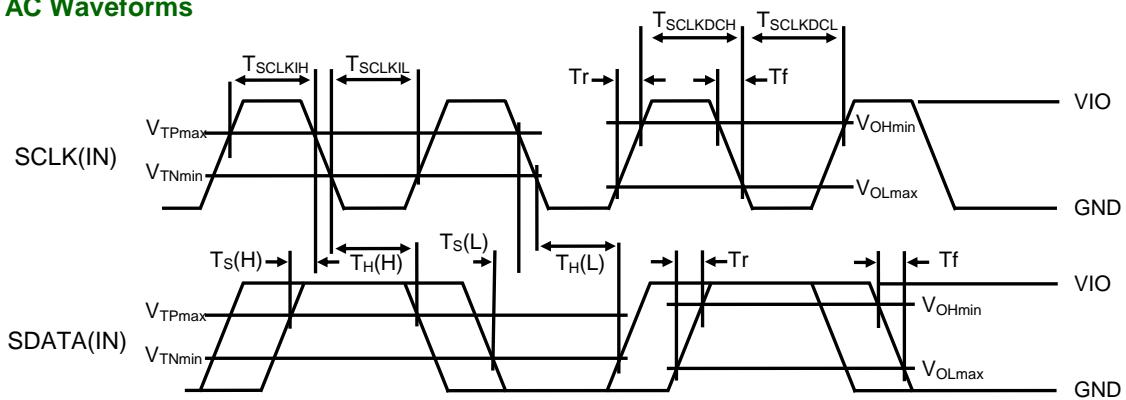

Figure 6.  $T_{SCLKDH}$ ,  $T_{SCLKDCL}$ ,  $T_{SCLKIH}$ ,  $T_{SCLKIL}$ ,  $T_S$ ,  $T_H$
- Figure 6, 7, 8, 9 and Table8 show the important parameters for SCLK and SDATA required for proper operations of the Toshiba MIPI RFFE slave interface.